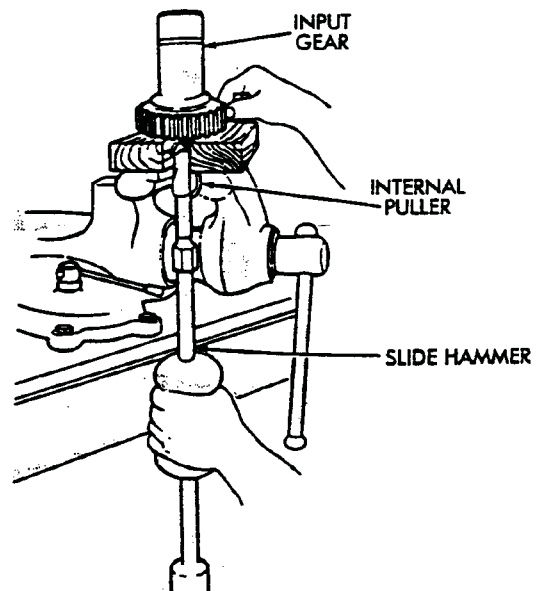

Fig. 4-34 Removing Mainshaft Pilot Bearing
17. Remove the mainshaft pilot bearing from the input gear. Support the gear on wood blocks and remove the bearing with a slide hammer and internal puller (Fig. 4-34).